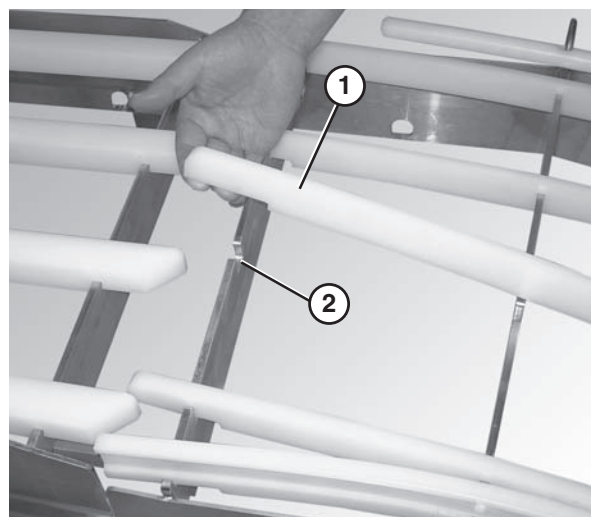

Figure 35
3. Insert the wear strips (**Figure 35, item 1**) into the appropriate slots in the frame (**Figure 35, item 2**), starting with the shortest wear strip on the inside of the curved section and working outward to the longest.